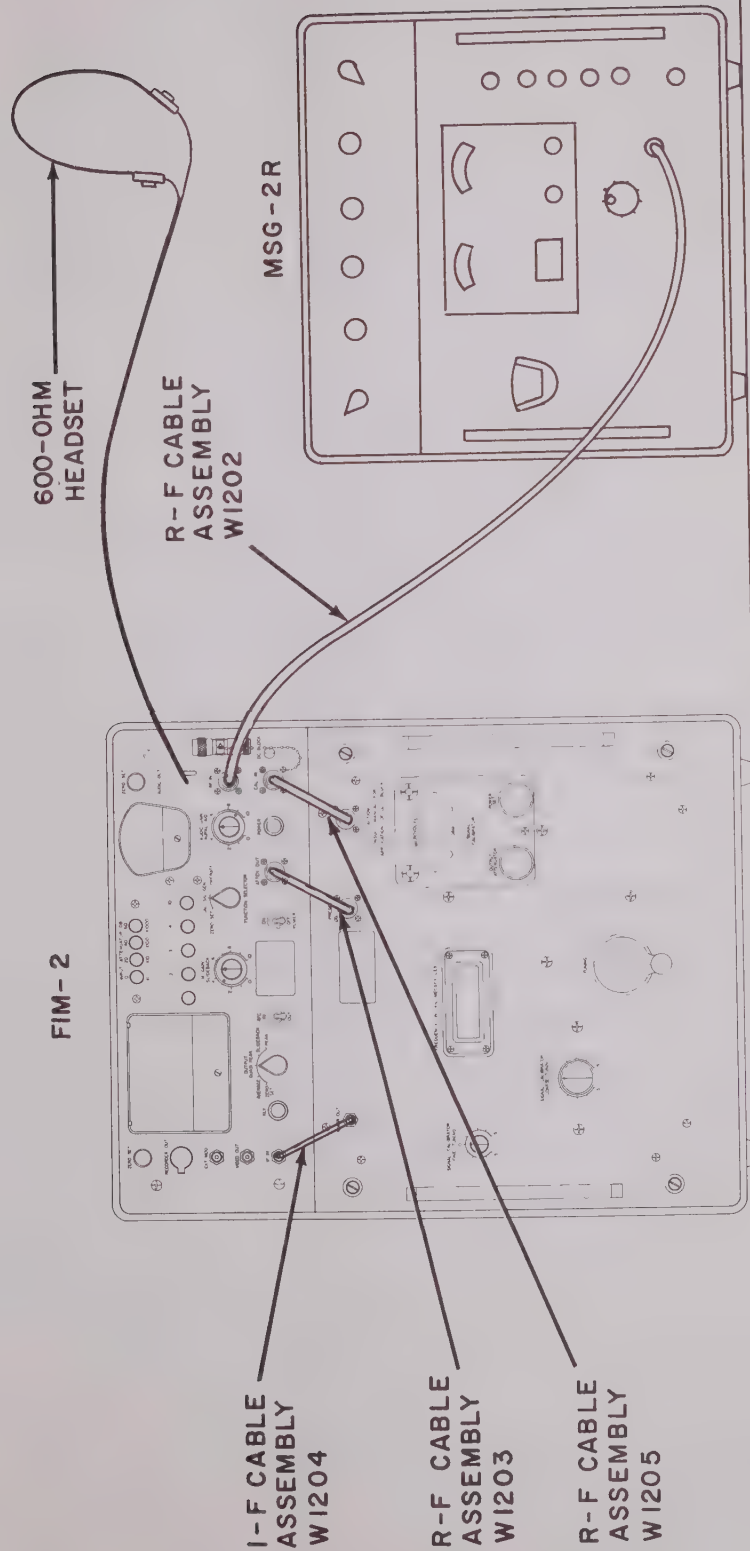

Figure 2-10. Operating Checks, Equipment Set Up
e. Connect r-f cable assembly W1205 as a jumper between the SIG GEN OUT jack and the CAL IN jack, as shown in figure 2-10.
f. Connect r-f cable assembly W1203 as a jumper between the ATTEN OUT jack and the PRESEL IN jack, as shown in figure 2-10.
g. Connect i-f cable assembly W1204 as a jumper between the MIXER OUT jack and the IF IN jack, as shown in figure 2-10.
r. Connect r-f cable assembly W1202 between the RF IN jack and the output connector of a calibrated microwave signal generator (such as the Polarad Model MSG-2A or MSG-2R Microwave Signal Generator), as shown in figure 2-10.
t. Connect a 600-ohm headset to the AUDIO OUT jack, as shown in figure 2-10.